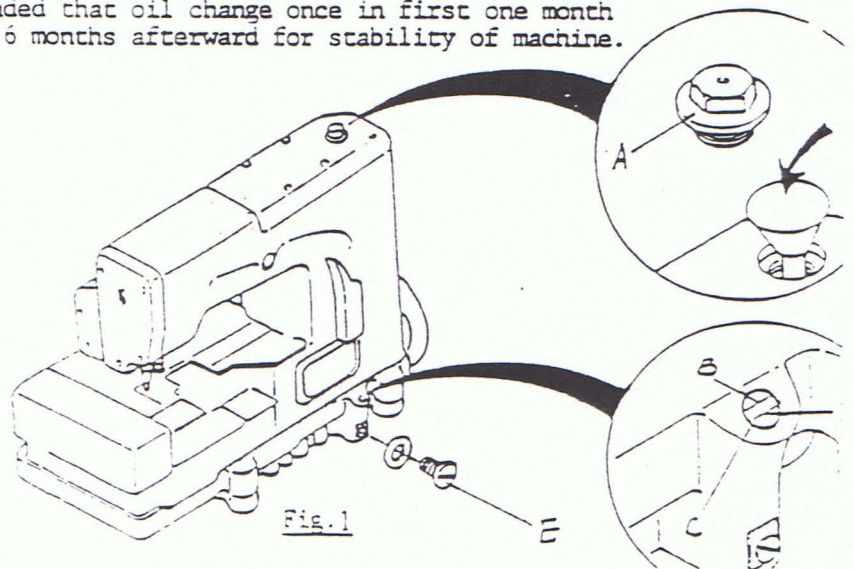

Fig.1
3) Supplying/draining oil (Fig.1)